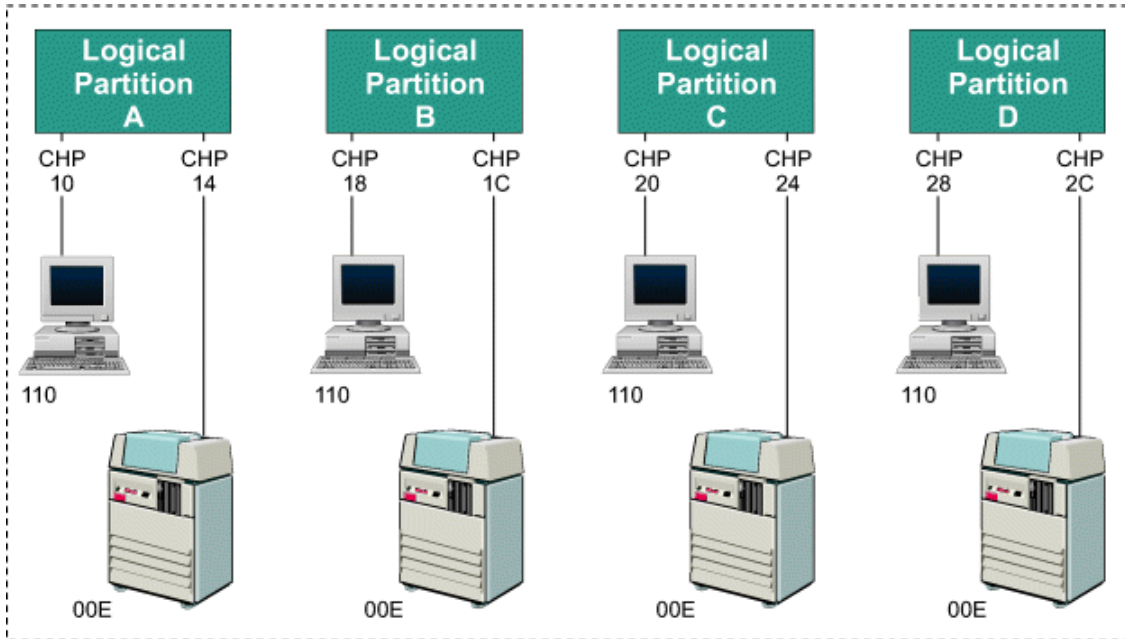

Figure 17. PR/SM configuration with duplicate device numbers
Figure 17 on page 58 illustrates a configuration where duplicate device numbers are used to represent a console (110) and a printer (00E) within each of four logical partitions.
The following example shows the IOCP statement for Figure 17 on page 58. This IOCP coding example groups the input statements by logical partition. When coding IOCP, view the I/O devices from a logical partition perspective.